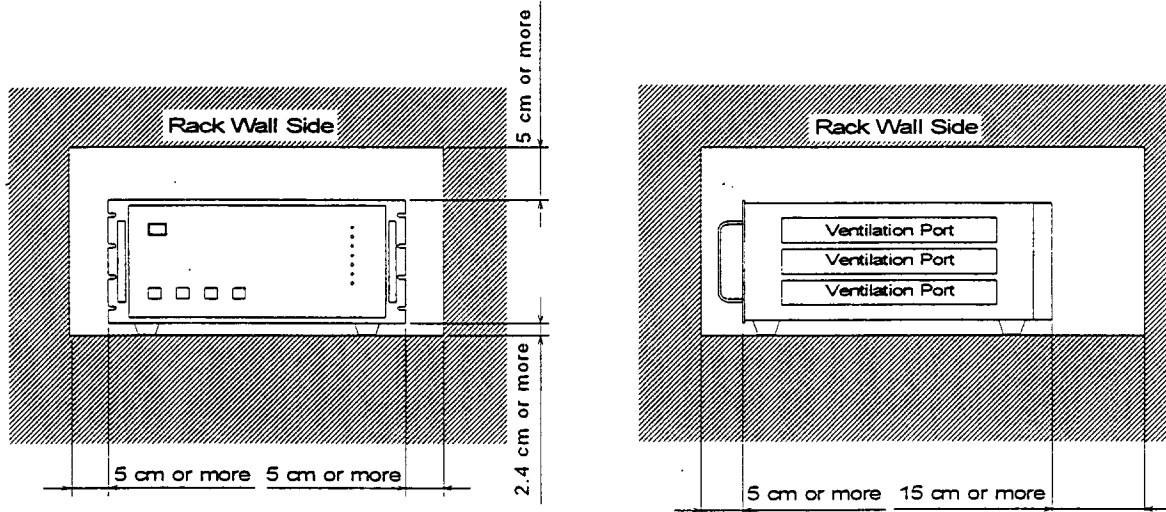

Figure 4.4 Peripheral Space of the STP Control Unit
Leave enough space for the following in addition to that for the STP control unit (see Figure 4.4, "Peripheral Space of the STP Control Unit.")
- ◇ For the peripheral space of the STP control unit, see Figure 4.4, "Peripheral Space of the STP Control Unit."